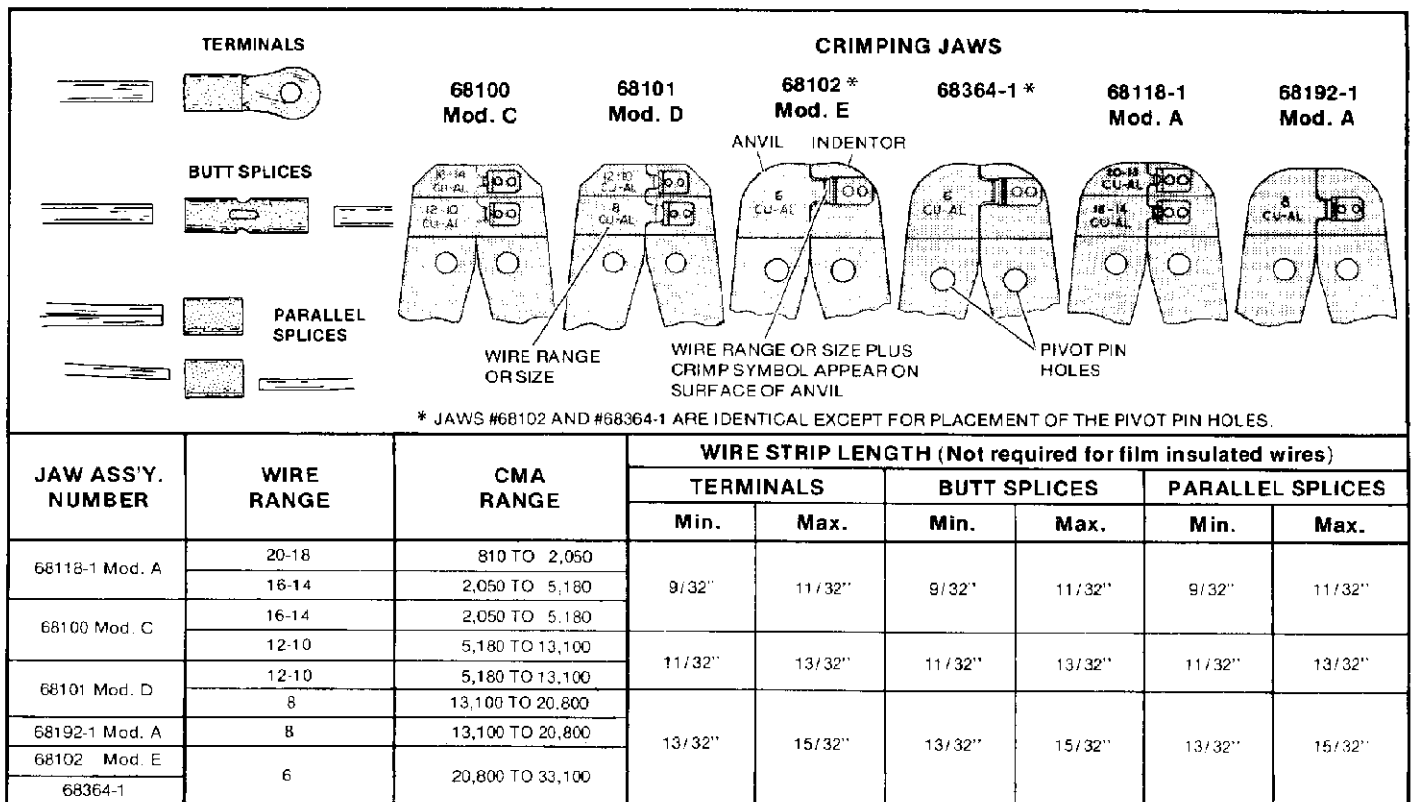

Figure 1
- (a) Select the correct jaw set for the wire size being used. Wire range or size and the insulation piercing crimp symbol (▲) appear on one jaw as shown in Figure 1.
- Select the proper terminal or splice wire range or size, and crimping head combination for the wire size being used. See Figure 1.
- Determine correct terminal or splice wire loading by referring to paragraph 2.3, and CMA range listed in Figure 1.
- Strip stranded copper wire to dimension indicated in Figure 1.